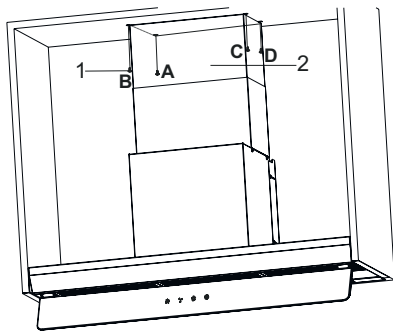

Fig. 18
7. → Pull the interior flue up to the top section of the cabin (Fig. 18).
Using the 4 connection screws through the A, B, C, D points to the kitchen cabin (Fig. 18).